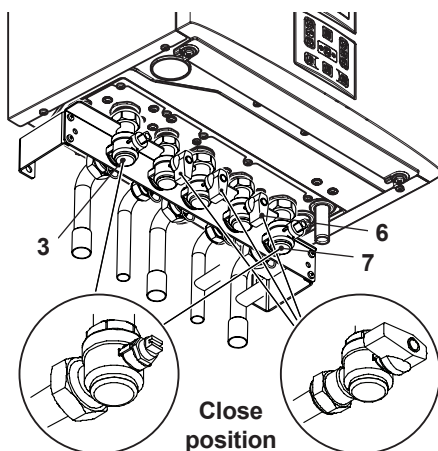

Fig. 9.9
- Turn off the d.c.w. inlet isolating valve 6 (Fig. 9.9).
- Close the c.h. isolating valves (3 and 7 in Fig. 9.9).